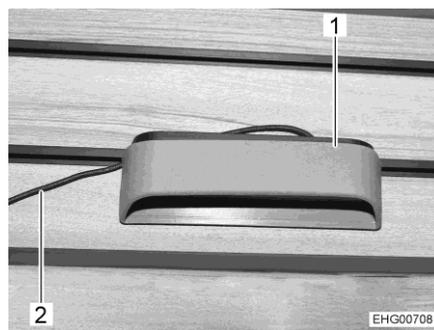
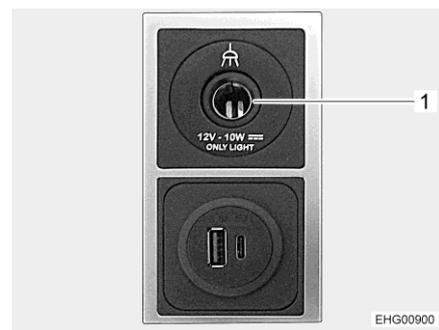

Fig. 76 Mobile reading lamp
Fig. 77 12 V socket and USB ports
- Attach the mobile reading lamp (Fig. 76,1) to one of the hanging rails at the desired location.
- Connect the cable (Fig. 76,2) of the mobile reading lamp to the nearest 12 V socket (Fig. 77,1).